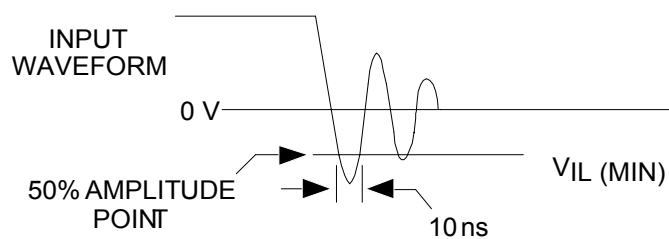

Figure 6: Input Signal Waveform
1. -1.0V for a duration of 10ns measured from the 50% amplitude points (see Figure 6) for input-only lines.